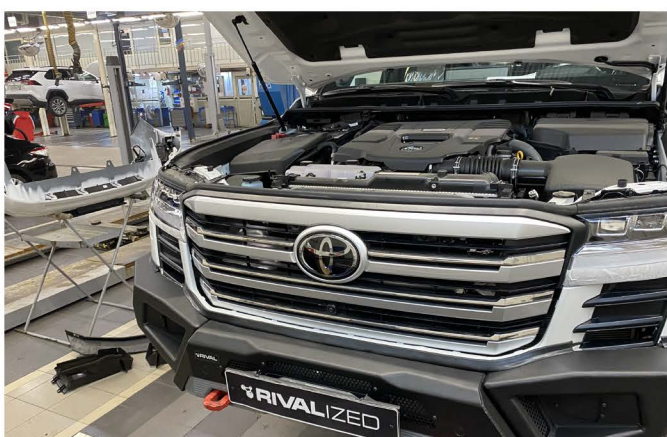

Fig.47
47. Install OE grille (fig.47).